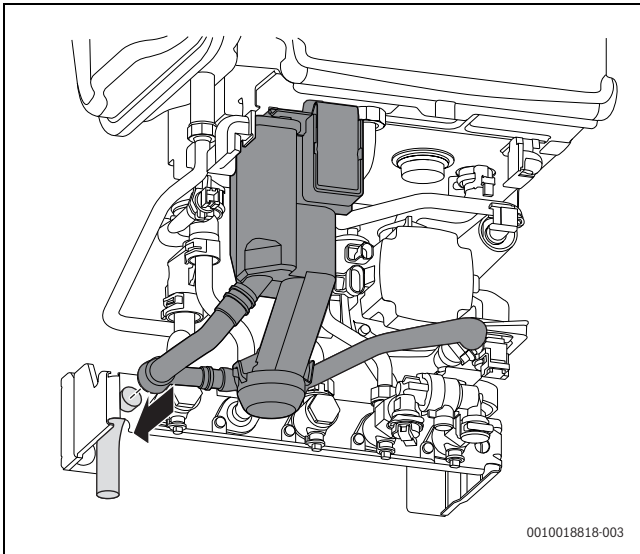

Fig. 53 Condensate connection
- Refer to Fig. 53, condensate connection: